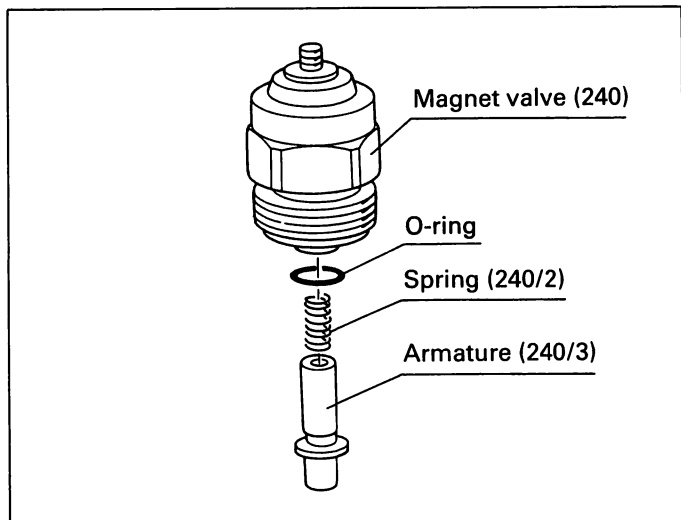

Fig. 78 Magnet valve assembly
Insert the spring (240/2) and armature (240/3) into the magnet valve and screw the magnet valve (240), together with the O-ring (241), into the distributor head assembly. Tighten to the specified torque. (Fig. 78)